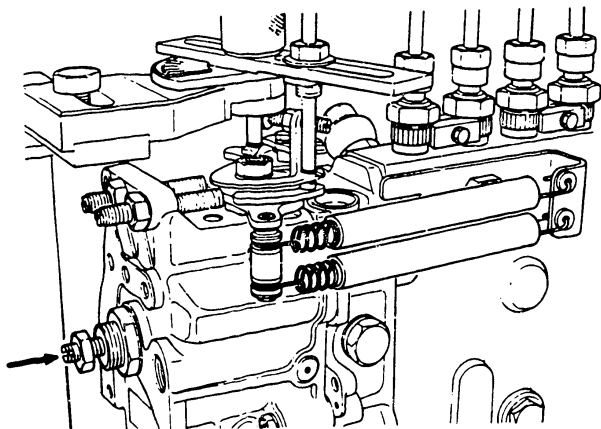

Fig. 136
3. Push the governor shaft until it comes into contact with the wall of the pump housing, and keeping the pump speed between 1,000 - 1,200 rpm set the control rack at the position where the dial gauge indicates a zero reading (Fig. 136 and 137).